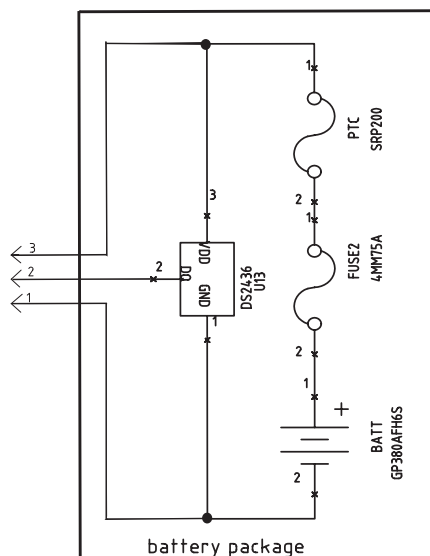

Figure 3-5. Battery Schematic Diagram.
2. Observe the bar display, see Figure 3-5 it indicates the status of charging.
2. Observe the bar display and note if the battery is charging normally, refer to figure 3-5 for displays. If the bar indicator is blinking in one of the yellow segments, the recharge board is working. To confirm this, momentarily press the **C** button every 3 seconds and note the battery voltage on the indicator display. It should increase slightly with each second or third button press. As an example, the first press indicated 8.62v the second or third press should increase slightly to 8.64v. A good Recharge board will continue to charge the battery until the first green bar display is lit. If the battery fails to indicate an increase in voltage after pressing the **C** button several times, either the battery or the recharge board is defective.